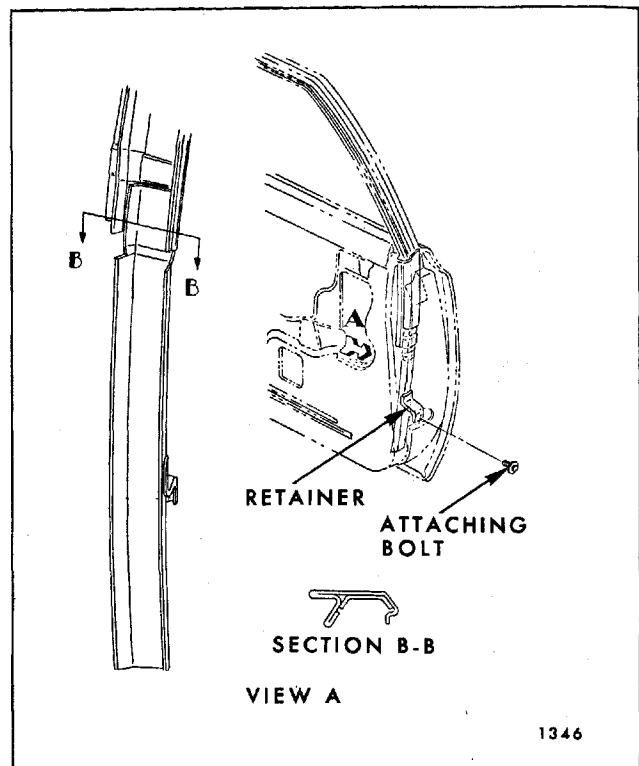
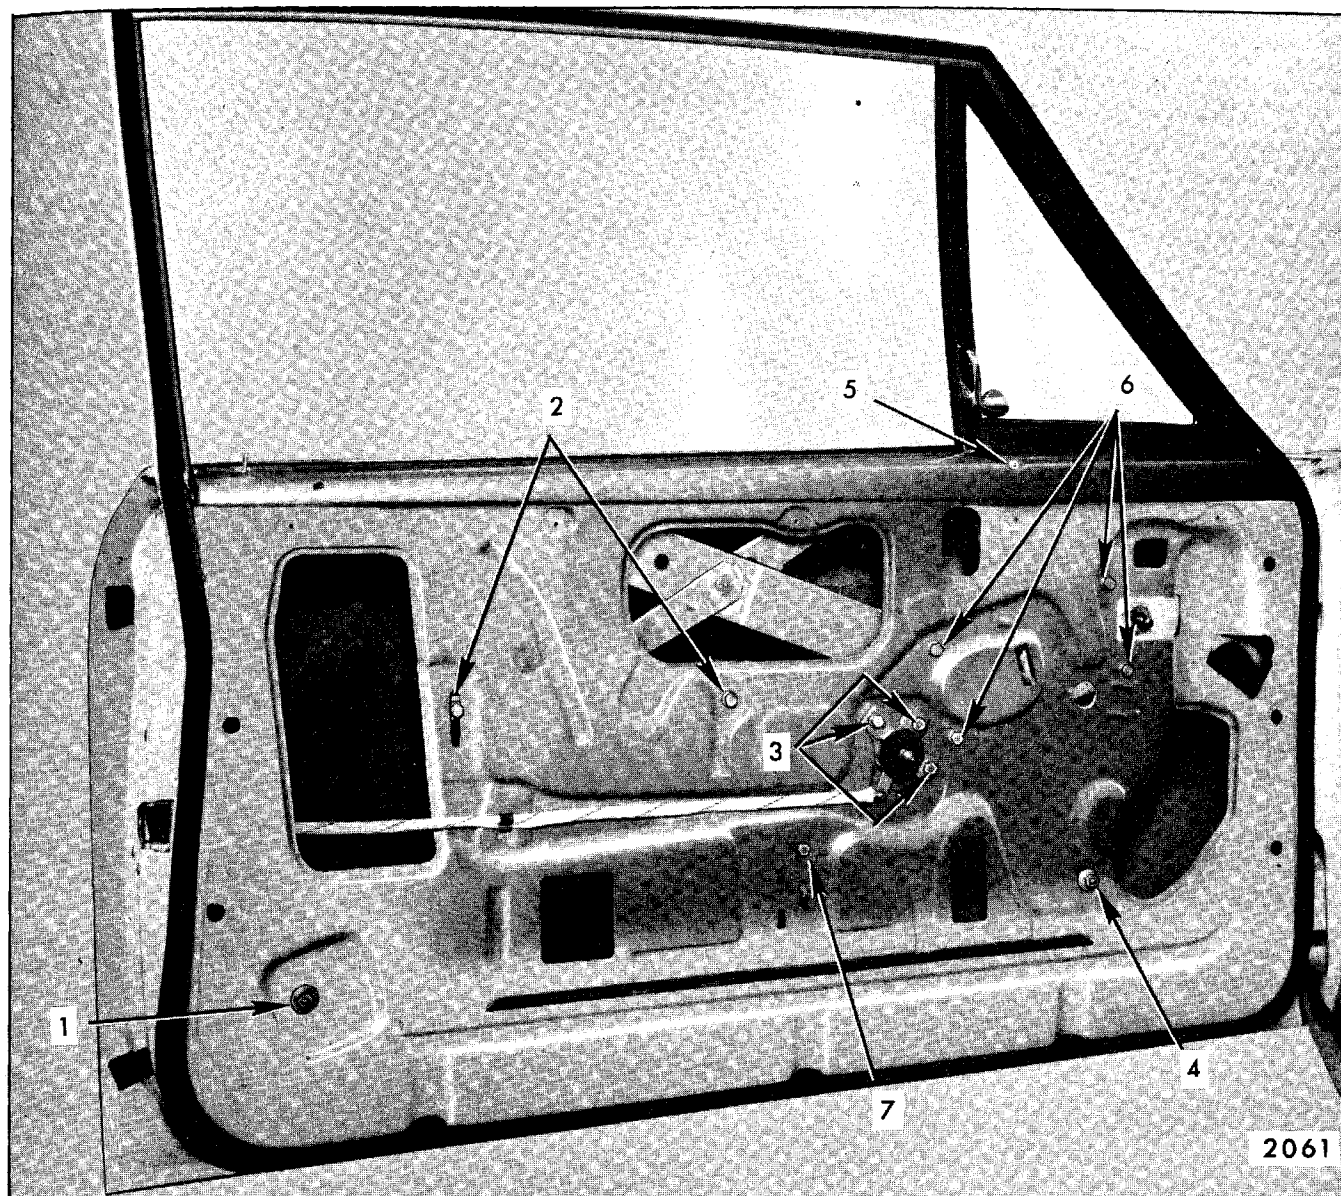

Fig. 7-66—Door Window Glass Run Channel Lower Rear Retainer - "A" Styles
Fig. 7-67—Front Door Hardware - "A-07" Style
2. On "A" Body Styles, remove door window glass run channel lower rear retainer attaching screw and remove retainer through large access hole. Figure 7-66 is typical of retainer retention except on "07" Styles. For "07" Styles, see Fig. 7-67.
possible (see Fig. 7-67 for "A" Body Styles and 7-68 for "X" Body Styles).